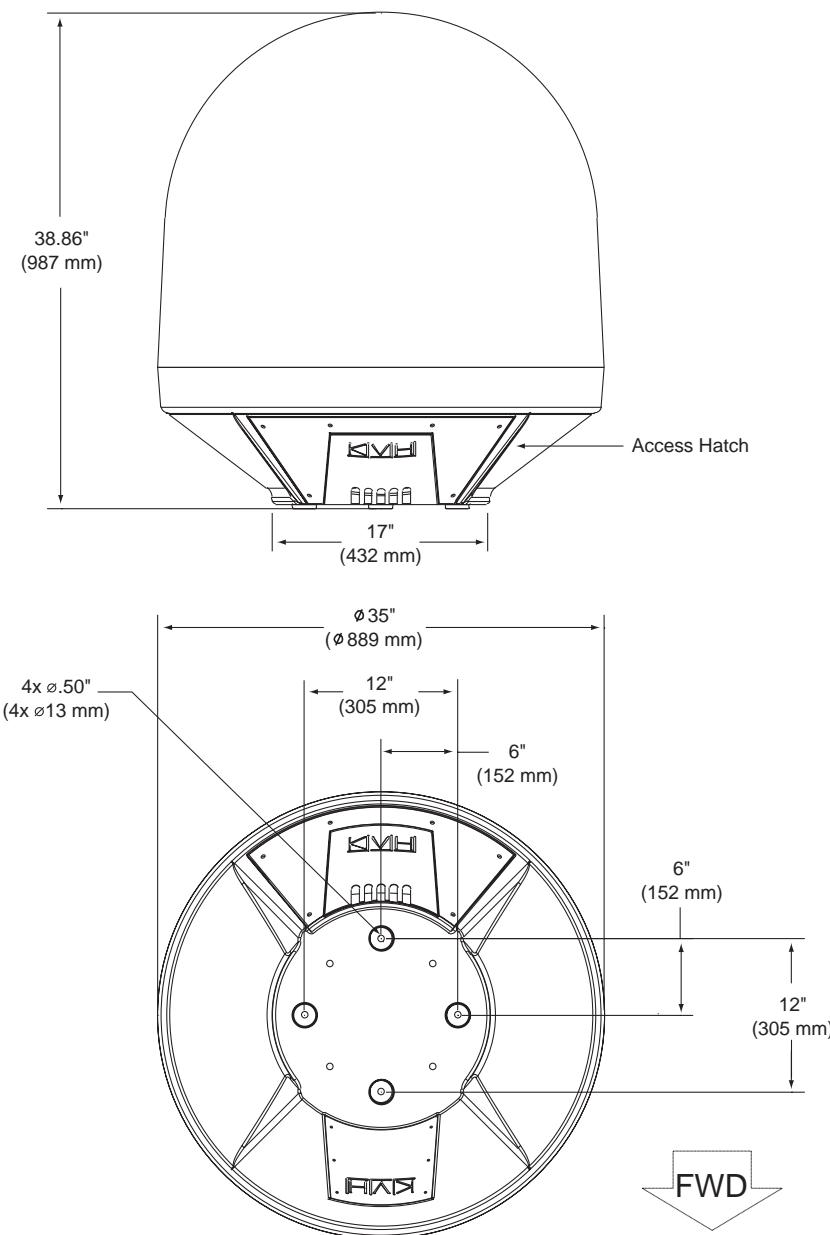

Figure 2-2
- Be sure to account for the height and base dimensions (see Figure 2-2 on the following page). Also be sure to leave enough space outside the access hatch to allow a technician to remove the seven hatch screws and perform maintenance through the hatch.